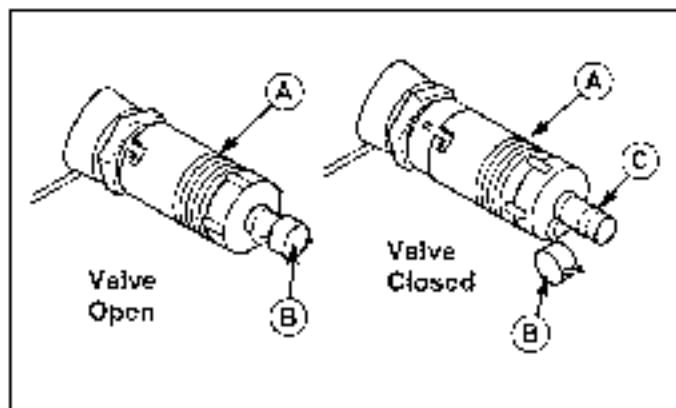

Figure 17. Oil Drain Valve
2. Loosen or remove the dip stick (A).
3. Wipe oil drain valve (A, Figure 17) and cover (B) with paper towel or rag.
6. Wipe the nipple (C) with paper towel or rag. Install the cover (B) over nipple (C).